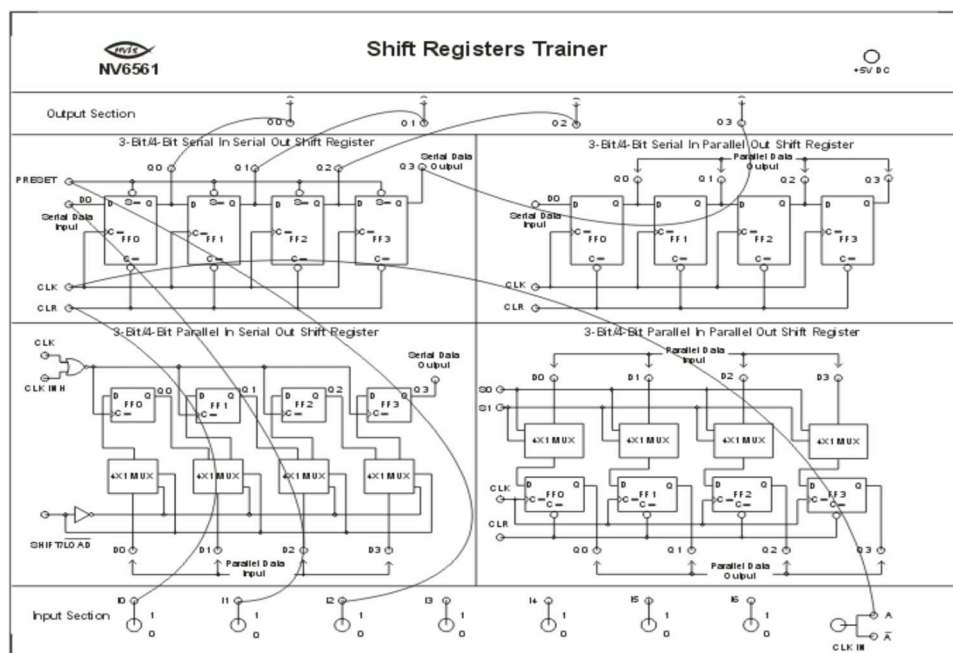

Fig. 3.3 Connection Diagram of 4 Bit Serial in Serial Out Shift Register
3.3.1 4-Bit Serial In Serial Out Shift Register: Follow Fig 3.3